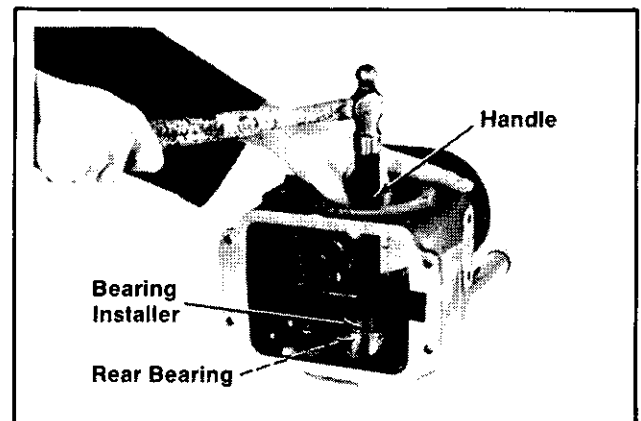

Figure 12A-1. Installing Rear Bearing.
1. Install the rear bearing into crankcase using the #4747 handle and appropriate bearing installer. (Refer to the "Special Tools" section.) Make sure the bearing is bottomed fully, and straight and true in bore. Refer to Figure 12A-1.